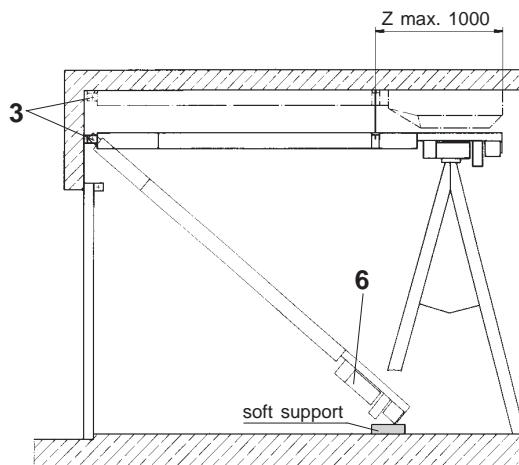

Fig. 4
- Insert the sliding nuts on both sides into the aluminium profile (8) with a tipping movement.
- Screw the suspension angle (7) and the fittings into the aluminium profile (8) according to the enclosed drawing, using the hexagon countersunk bolts with double nip.
- A • Detach the front strap (3) from the drive unit extension and fasten it to the lintel.
- Lift the drive unit according to Fig. 4 and screw it into the strap (3). Caution: do not damage the head of the drive unit (6)!
- B • Push the front suspension angles (7) in the aluminium profile (8) completely to the front.
- Lift the rear end of the drive unit and prop the drive unit head (6) e. g. on a stepladder or on pedestals. Fasten the rear suspension angles (7) to the ceiling. Fig. 4 and Fig. 5